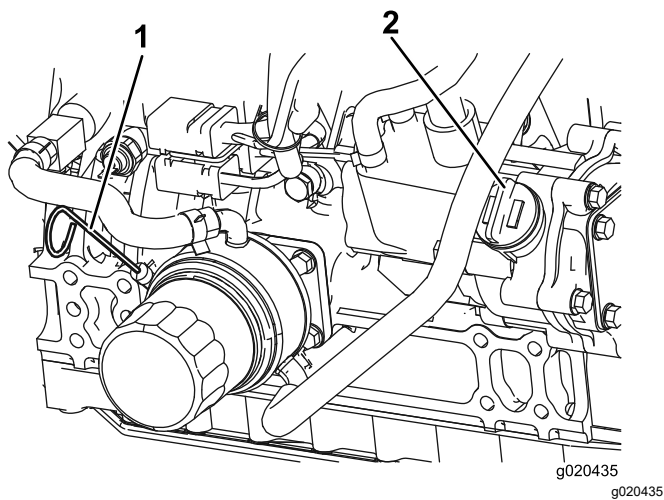

Figure 68
The oil level should be in the safe range (Figure 68).
4. If the oil is below the safe range, remove the fill cap (Figure 68) and add oil until the level reaches the Full mark.